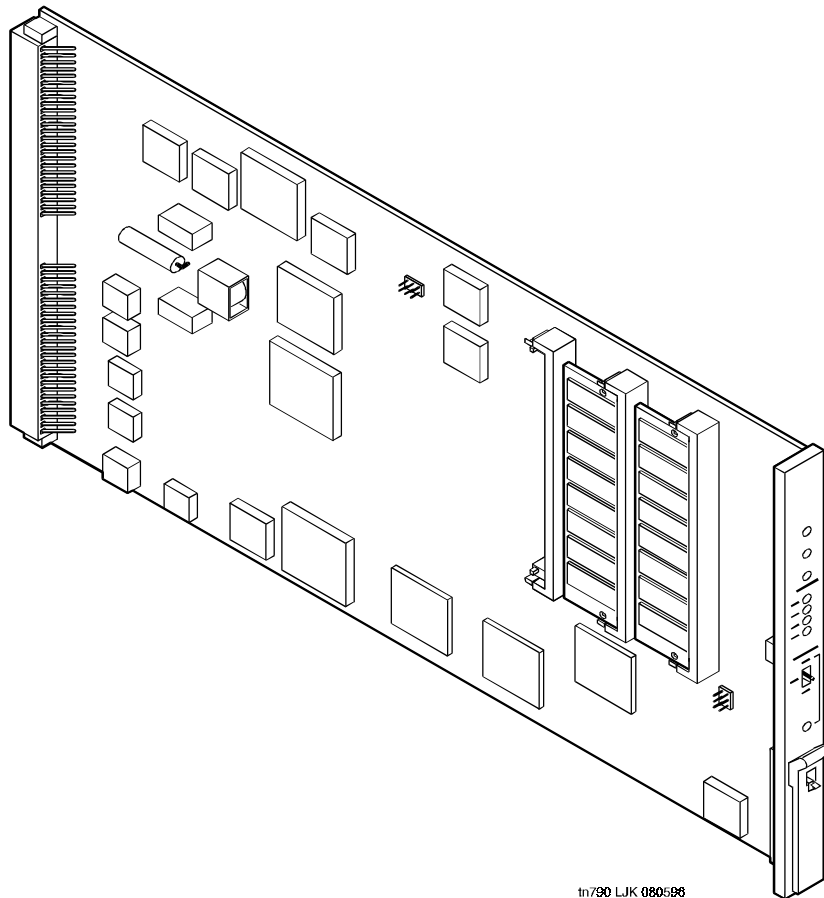

Figure 6-2. TN790 Processor Circuit Pack
See Figure 6-2 to locate the SIMM sockets on the TN790 processor circuit pack.
2. Place the TN790 Processor circuit pack on an ESD-approved work station, such as the anti-static circuit pack packaging or anti-static mat, with the SIMM sockets facing up and to the left, as shown in Figure 6-2.